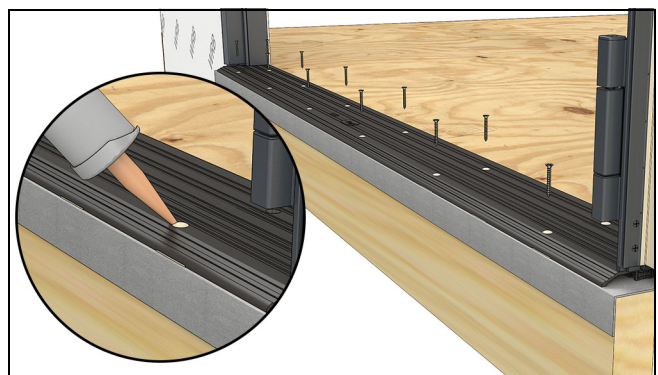

Figure 32
4. Inject sealant in the sill installation holes and fasten with the provided screws. See Figure 32.